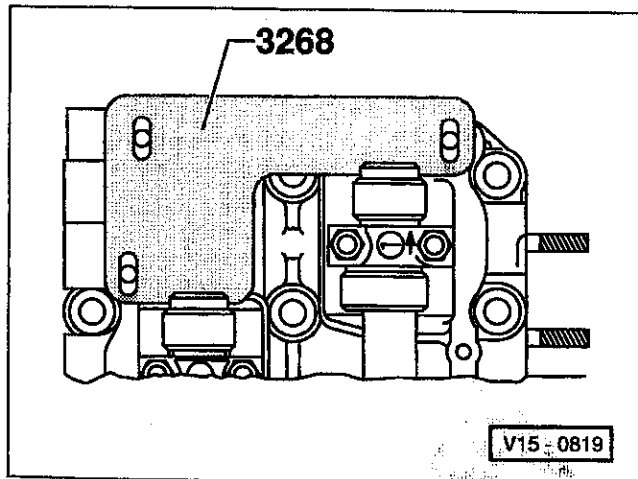

Fig. 20. VW special tool no. 3268 aligns camshafts at TDC. Tool engages slots in rear of camshafts.
5. Align the camshafts so that the slots in the rear of the shafts are positioned to accept VW special tool no. 3268. See Fig. 20. Install the special tool and push it forward into the cutouts.